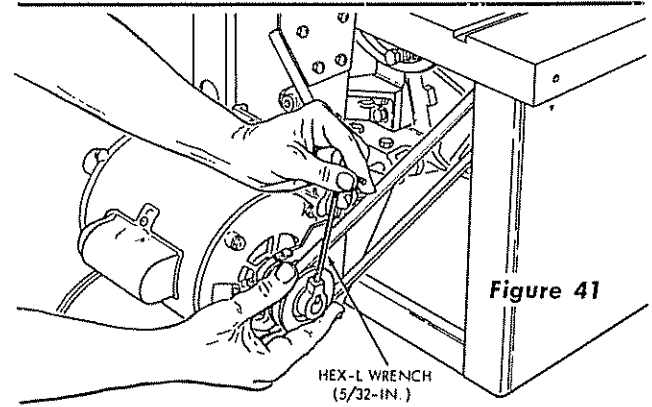

Figure 41
- g. If the belt is not aligned with the two pulleys, which can be readily seen by sighting along edges of both pulleys, slide the motor pulley in or out on the shaft as required and, when correctly aligned, tighten pulley set screw with a 5/32-inch hex-L wrench. (See figure 41.)